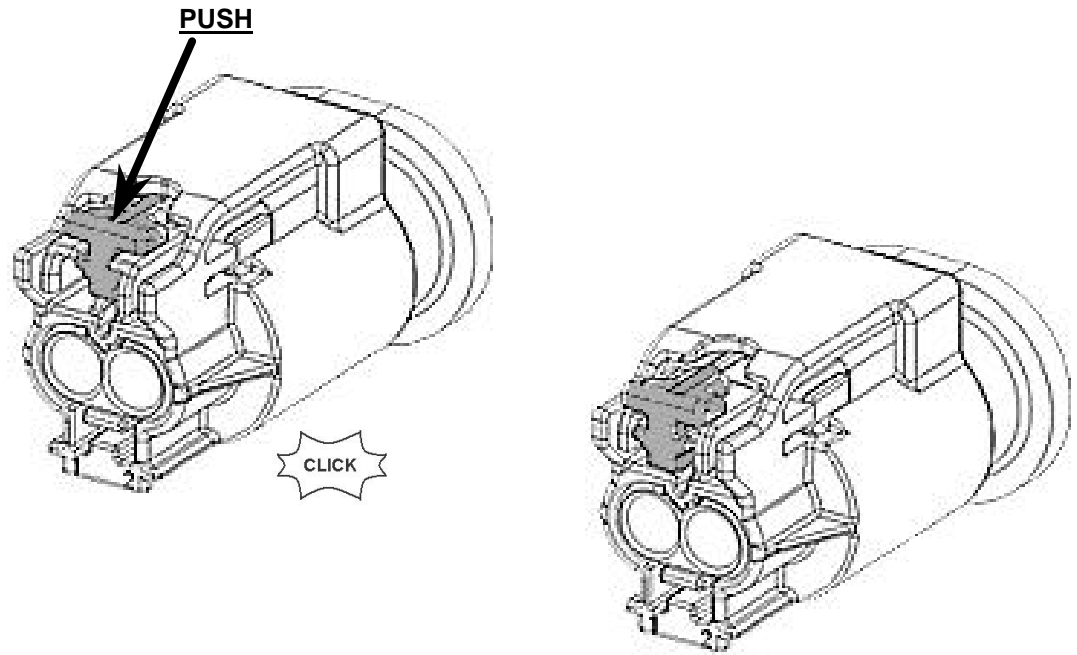

Figure 8
- a) If CPA is present, push in the direction shown by the arrow to move the CPA from final locking to pre-locking position , see Figure 8 below :